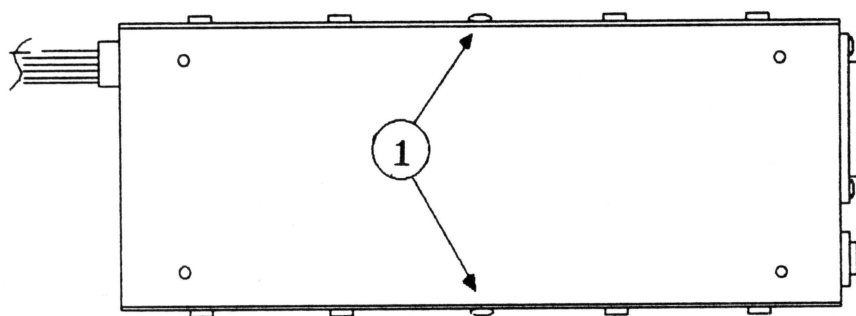

Figure 2
- a. Locate the two rivets that hold the bottom plate onto the power supply (Figure 2, #1).